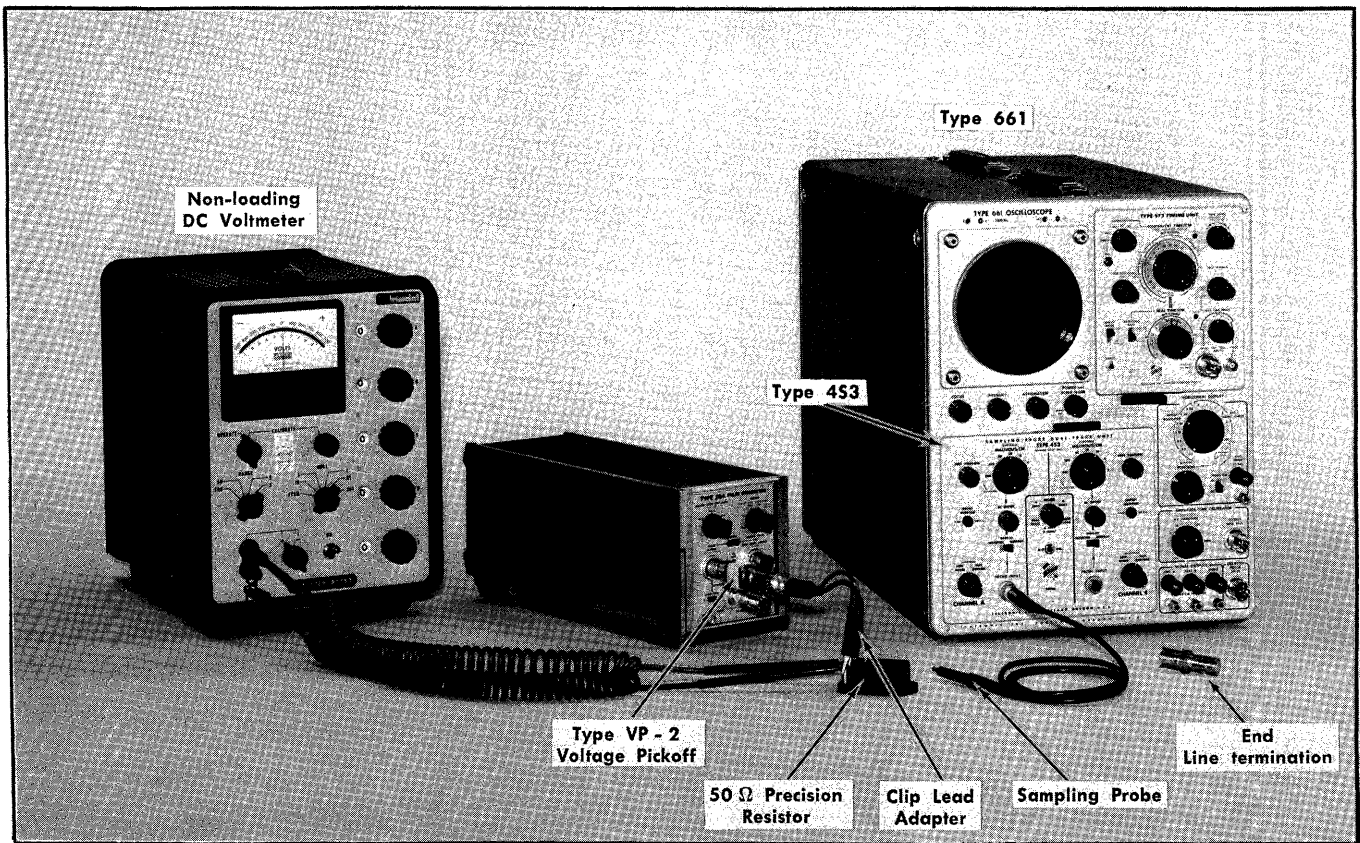
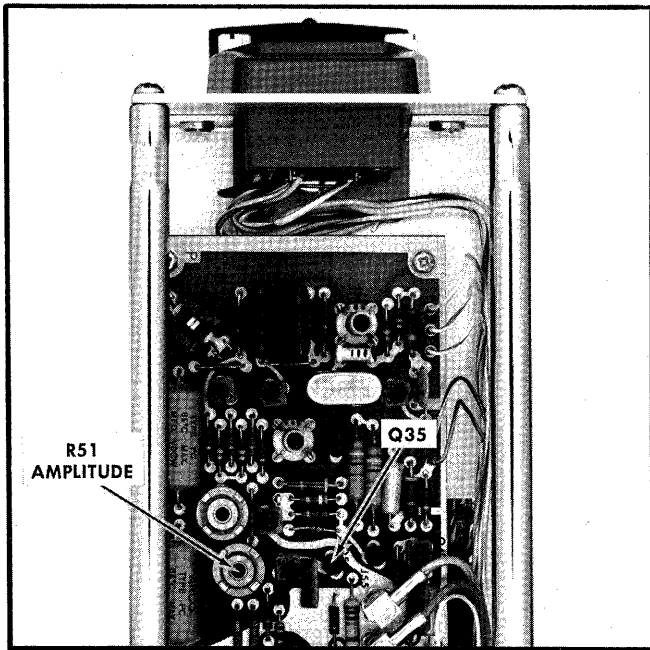

Fig. 6-6. Initial setup of test equipment used in step 4.
Fig. 6-7. Locations of adjustments in step 4.
4. Adjust Square Wave Amplitude, R51 ①
- a. Use equipment setup shown in Fig. 6-6.
- b. Connect the 50 Ω resistor, (item 21 on equipment required list) by a BNC clip lead adapter through a BNC to GR adapter and a voltage pickoff VP-2 to the SQUARE WAVE OR SINE WAVE OUTPUT connector on the Type 284. Connect the precision voltmeter (item 2 in equipment list) across the resistor. If you use a precision resistor with a single coaxial connector a Tee connector can be used.
- c. Remove Q35 from its socket (see Fig. 6-7 for location).